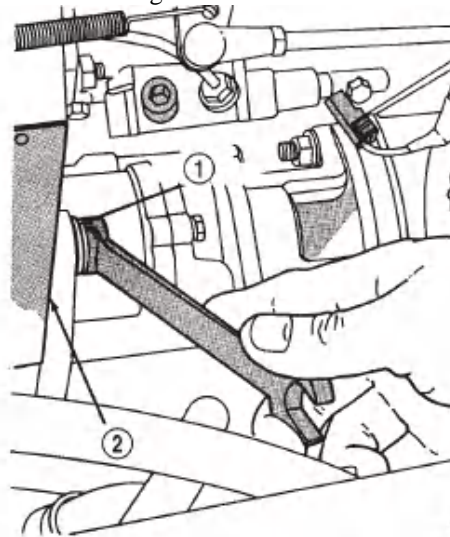

Fig. 7 Pump Assembly Upper Bolt
- (6) Remove upper bolt from the pump assembly (Fig. 7) and remove the assembly.
- (7) Remove the mounting gasket.